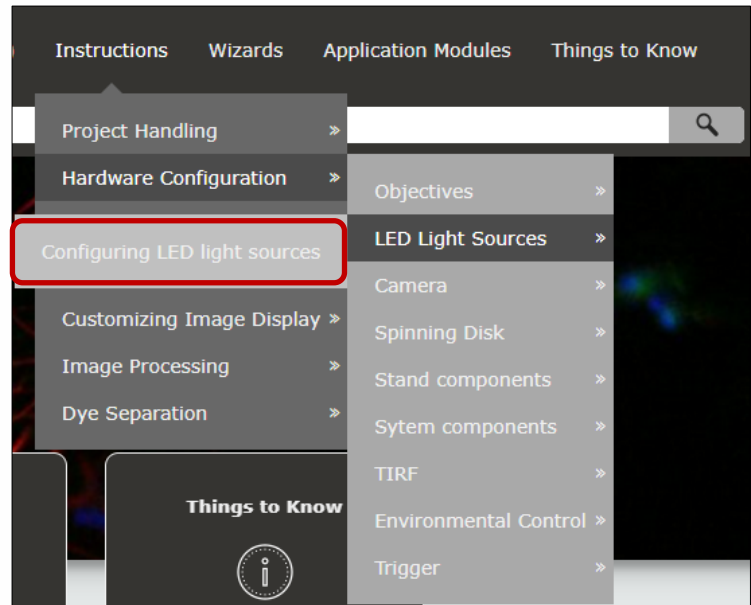

Figure 3: Where to find instructions within LAS X for configuring LED light sources (red box)
2. To configure your CoolLED Illumination System, navigate to Instructions > LED light sources > Configuring LED light sources (Figure 3).